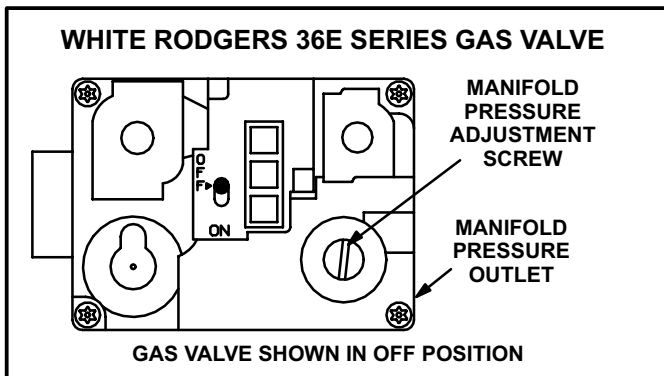

FIGURE 15
13. Gas Valve Figures 15, 16 & 17
- 6 - *White Rodgers Gas Valve* -- Switch lever to **OFF**. See figure 15.
- 1 - Connect a test gauge to outlet pressure tap on gas valve. See figures 15, 16 and 17. Start unit and allow 5 minutes for unit to reach steady state.